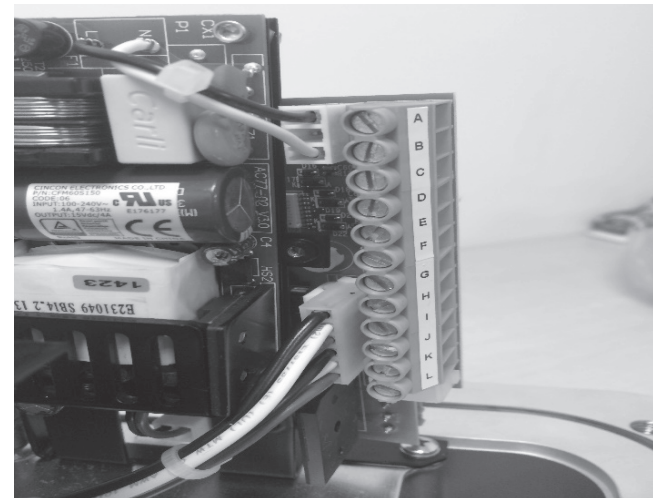

Figure 34.
- 4.36 Connect the upper power supply cable and the auxiliary limit switch harness, see Figure 34.